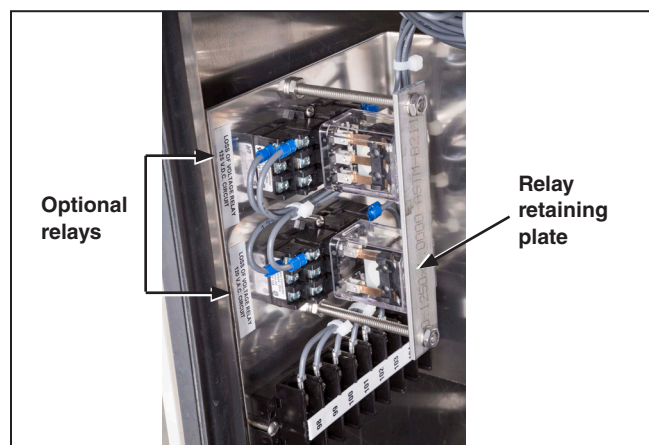

Figure 32. Making sure all optional “ice-cube” style relays are fully seated and the retaining plate is in place.
- Any optional “ice-cube” style relays (used for catalog option “-P” and “-T2”) are fully seated in their mounts (see Figure 32 on page 26)